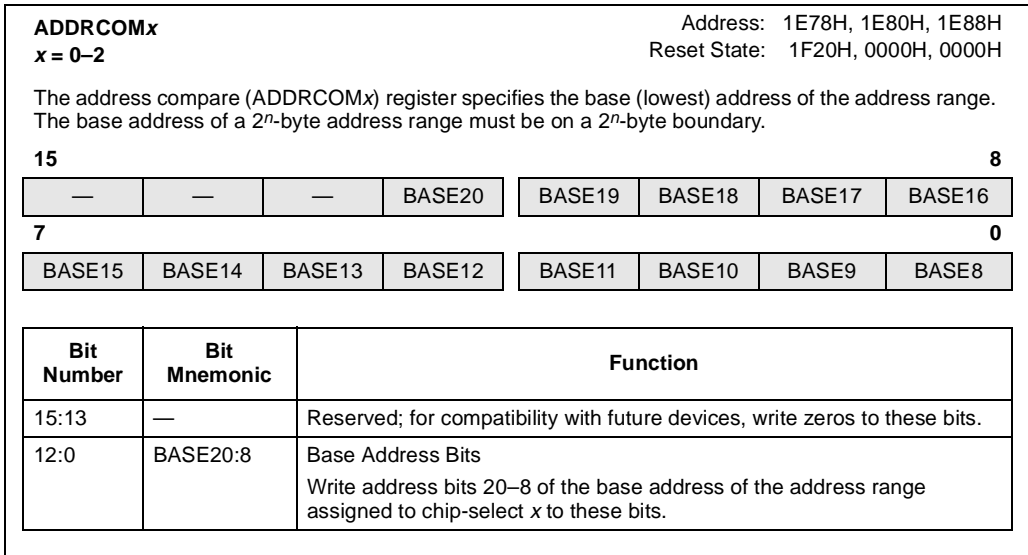

Figure 15-2. Address Compare (ADDR COM_x) Registers
This section describes the ADDR COM_x and ADDR MSK_x registers and how to set them up for a desired address range. The ADDR COM_x register (Figure 15-2) and ADDR MSK_x register (Figure 15-3) control the assertion of each chip-select output. The BASE $_{20:8}$ bits in the ADDR COM_x register determine the base address of the address range. The MASK $_{20:8}$ bits in the ADDR MSK_x register determine the size of the address range.
- Place address bits 20–8 of the base address into bits BASE_{20:8} in the ADDR_{COM}_x register (Figure 15-2).
The location and size of an address range are specified by the ADDR COM_x register (Figure 15-2 on page 15-10) and the ADDR MSK_x register (Figure 15-3 on page 15-7). The 8-Kbyte SRAM is assigned to address range 17E000–17FFFFH and uses chip-select output 2. Address bits 20–8 of the base address (17E000H) are written to the BASE20:8 bits in the ADDR COM_2 register, which then contains 17E0H.